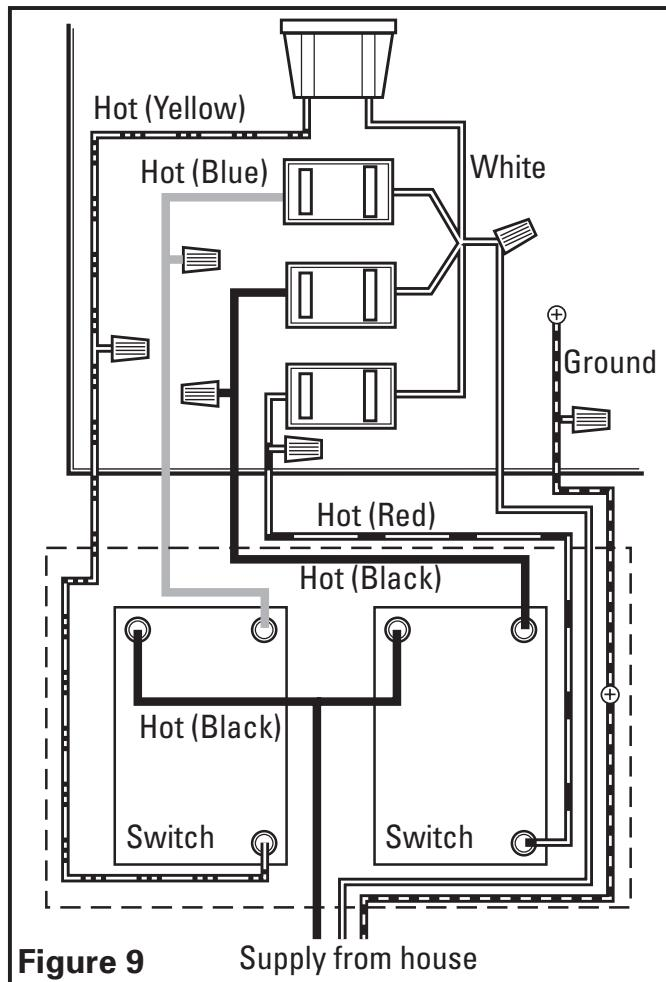

Figure 9 Supply from house
3. Connect the white wire from the house to the four white wires from the fan. Connect one hot (black) wire from the wall switch to the black wire from the fan (this is the fan control). Connect second hot (red) wire from the wall switch to the red wire from the fan (this is the heat control). Connect the third hot (blue) wire from the wall switch to the blue wire from the fan (this is the main light control). Connect the fourth hot (yellow) wire from the wall switch to the yellow wire from the fan (this is the night light control). Connect the ground wire from the house to the green wire from the fan (**Figure 9**). Use approved methods for all connections.